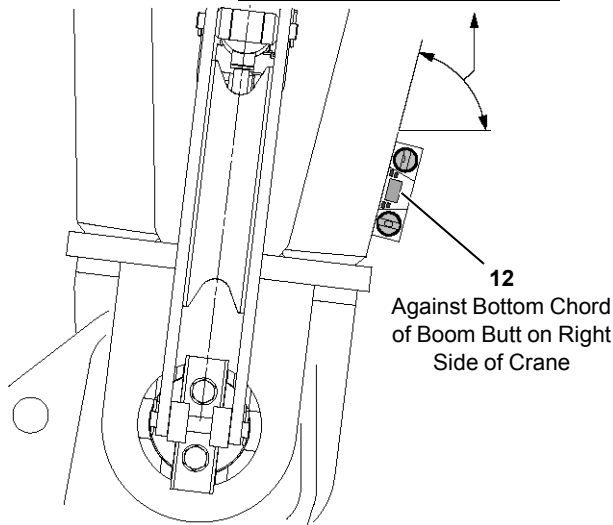

FIGURE 4-3
12	Digital Level (see <a href="#">Figure 4-3</a> )
- a. Place an accurate digital level (12) on the boom butt as shown in Figure 4-3. The corresponding Digital Level Angle should appear on the digital level.